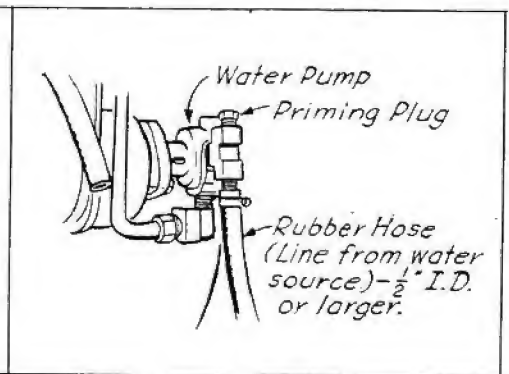

Fig. 11 Water Pump Priming
**PRIME WATER PUMP.** - Temporarily remove the plug from the water pump inlet fitting, figure 11. Fill the pump with water to lubricate and prime it.